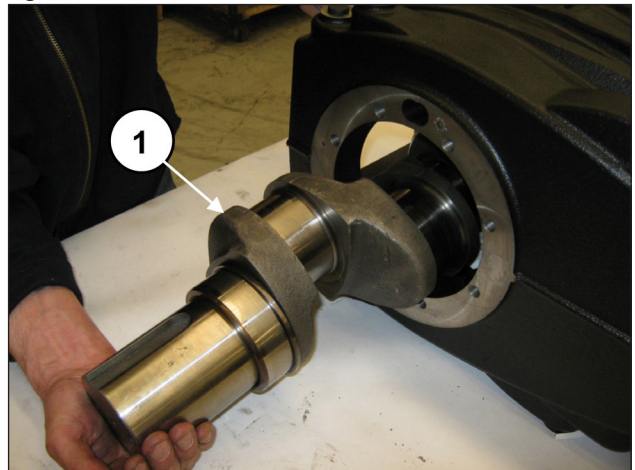

Fig. 31
Remove the bend shaft casing from the PTO side (pos. ①, Fig. 31).